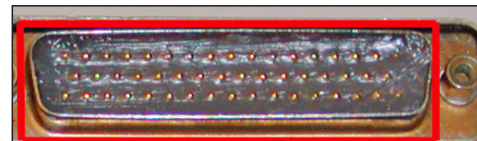

Figure 4 - Fill this area to top of pins with dielectric grease. Fill area completely to remove air gaps.
4. Inject dielectric grease into the harness connector port (see Figure 4). Fill to top of pins. Smooth dielectric to remove air gaps.